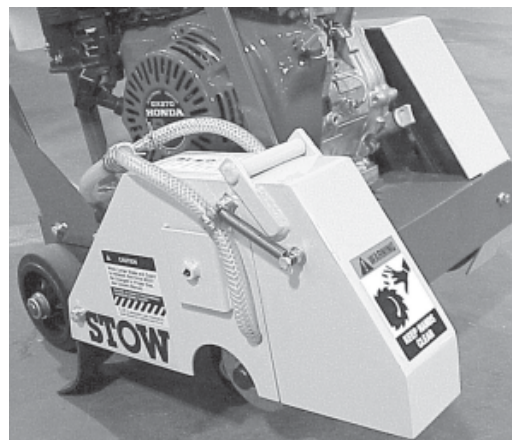

Figure 7. Blade Guard
4. If the oil level is low (Figure 7), fill to the edge of the oil filler hole with the recommended oil type (Table 4).